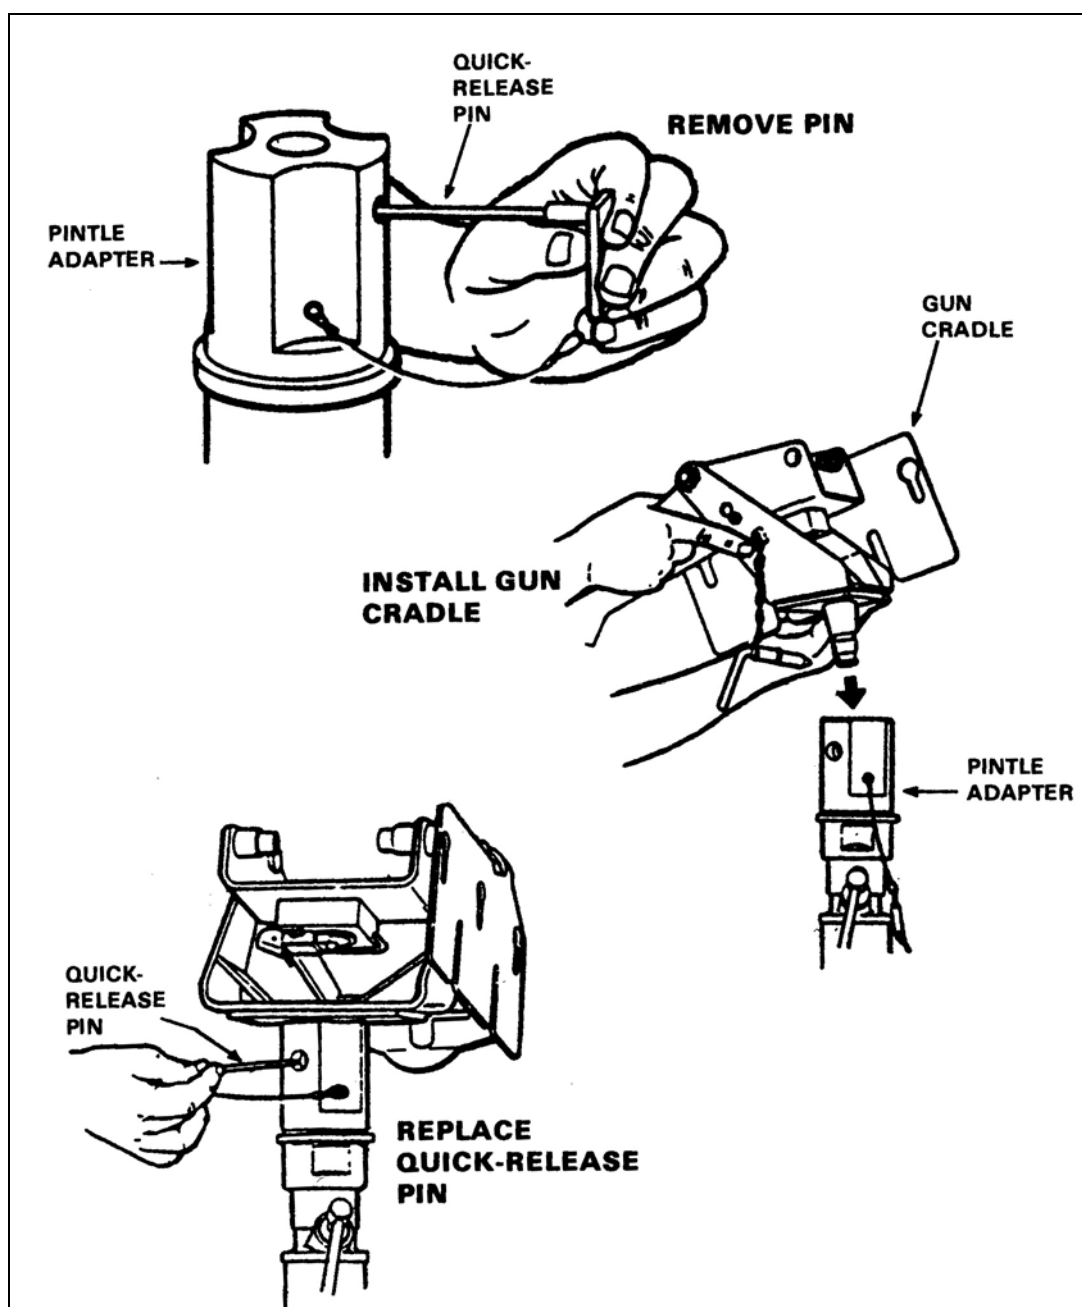

Figure 3-22. Install the carriage and cradle assembly.
(3) Tighten the lock screws with a 3/8-inch open-end wrench. Pull upward on the pintle adapter to ensure it is secured in place.
- (4) Remove the pintle adapter quick-release by pressing in on the pin's quick-release button and pulling the pin from the pintle adapter.
- (b) Install the carriage and cradle assembly by following these procedures (Figure 3-22):
- (1) Insert the front stow pin to prevent relative movement to the carriage and cradle.
- (2) Insert the carriage pintle into the top of the pintle adapter assembly.
- (3) Press in on the pin's quick-release button and insert the pin.
- (4) Pull upward and twist the carriage and cradle assembly. It should lock into the pintle adapter, but it should traverse freely left and right.